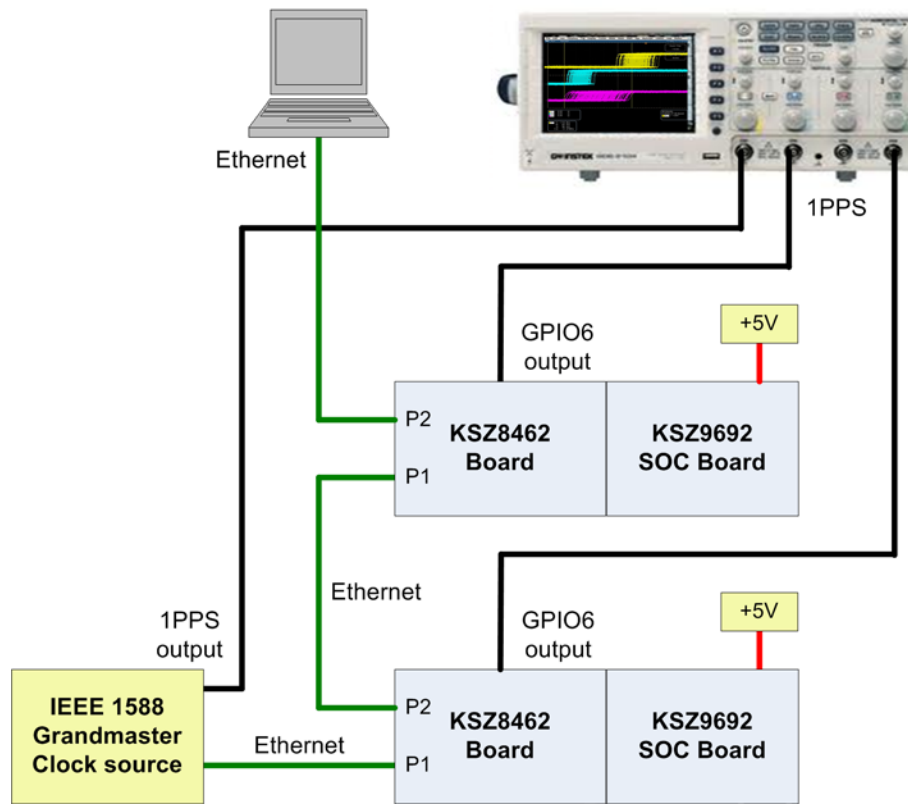
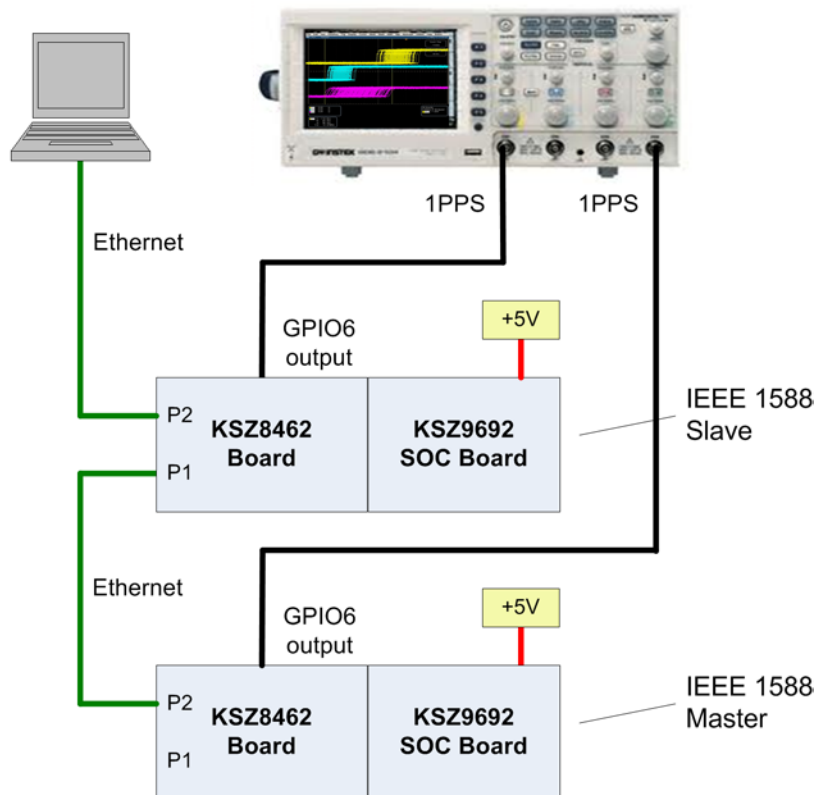

Figure 4 Setup #3
Figure 5 Setup #4
Figure 4 shows two KSZ8462 network nodes, but the setup works just as well with a single KSZ8462 node.
Figure 5 shows two KSZ8462 network nodes, but the setup works just as well with a single KSZ8462 node.
3. Connect together the Ethernet ports of the KSZ8462 boards and the PC as shown in Figure 5.
Ethernet is an alternative method for communication between the SOC boards and a PC. It has an advantage over serial port communication because only a single Ethernet connection is required at the PC for simultaneous communication to all the networked KSZ8462 / SOC nodes. Connection setups are shown in Figure 4 and Figure 5.